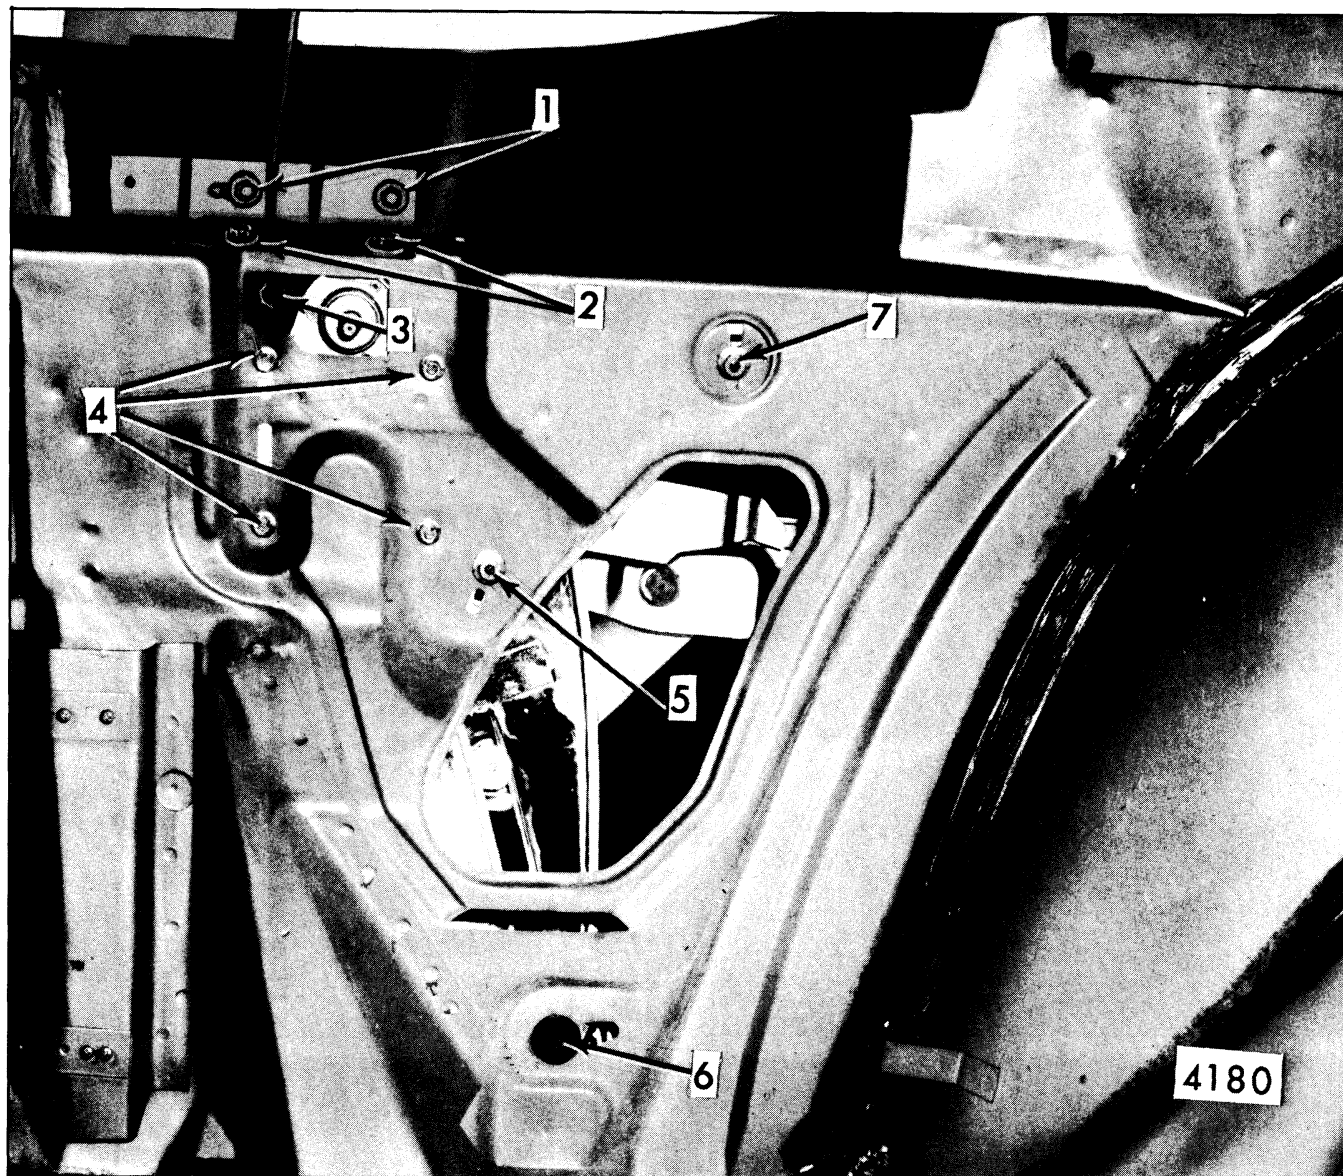

Fig. 6-33-Rear Quarter Hardware - "B and C-47, 57 and 67" Styles
3. Remove rear up-travel stop bolt ("5", Fig. 6-33 for "B and C" Styles and 6-34 for "E" Styles) and remove stop from inner panel.
4. Remove lower down-travel stop bolt ("5", Fig. 6-33 for "B and C" Styles and 6-34 for "E" Styles) and remove stop from inner panel.
5. Remove attaching bolts from upper support assembly to inner panel ("2", Fig. 6-33 for "B and C" Styles and 6-34 for "E" Styles).
6. Remove attaching bolts from lower guide support ("6", Fig. 6-33 for "B and C" Styles and 6-34 for "E" Styles).
4. Remove regulator attaching bolts. Remove regulator through access hole (see Fig. 6-33 for "B and C" Styles and 6-34 for "E" Styles).